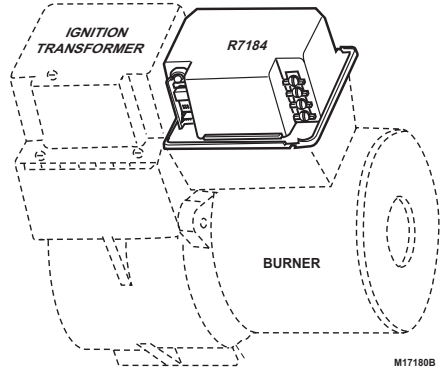

Fig. 1. Mounting R7184 on junction box.
1. Mount on a 4 in. by 4 in. junction box, directly on the main burner, or inside the appliance cabinet. In replacement applications, mount in the same location as the old control. See Fig. 1. Make sure the operating temperatures are within the ambient temperature range (see Specifications section).